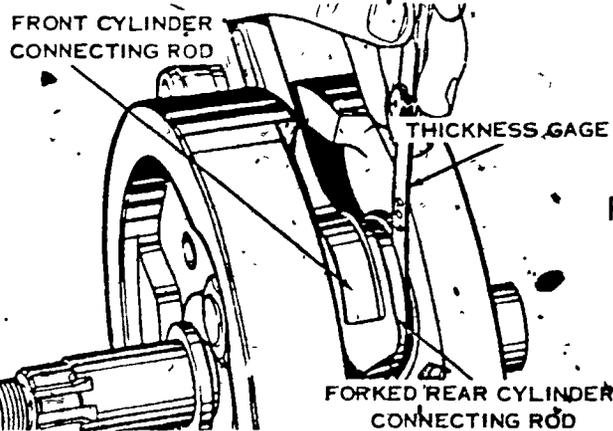

FIGURE 11
- 3 Insert thickness gauge (Figure 11)